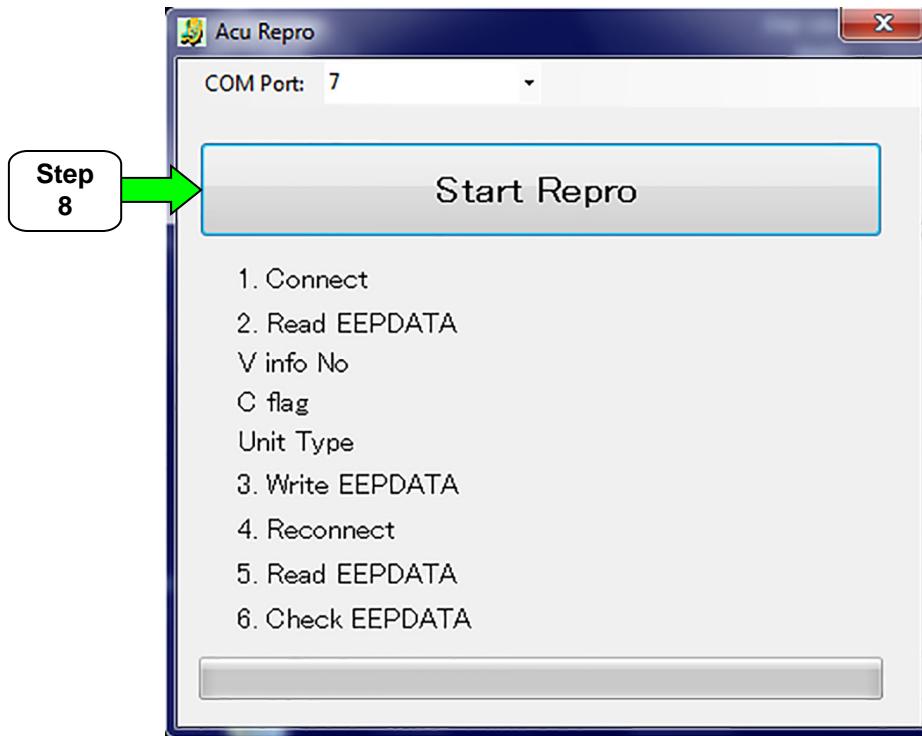

Figure 4
8. When the window in Figure 4 displays, select **Start Repro**.